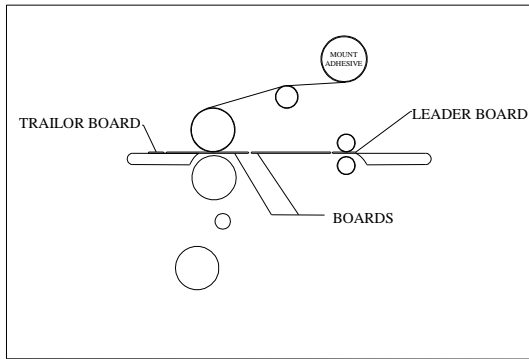

Fig. 15
1. Load the laminator as illustrated in (Fig. 15). Remove chill idler.